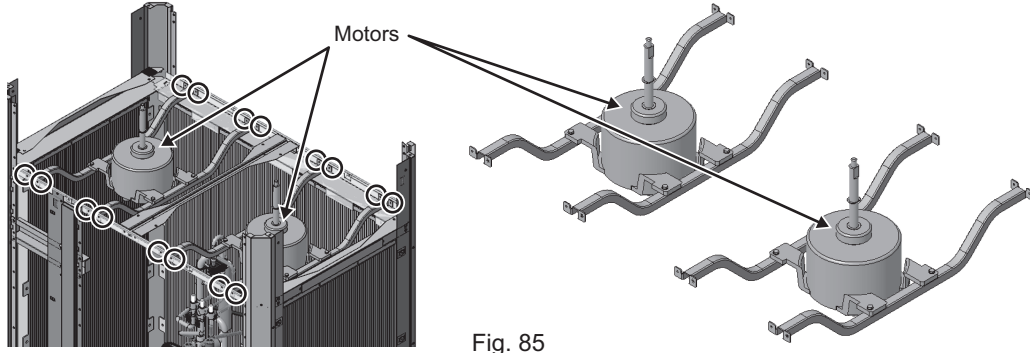

Fig. 85
(9) Remove the motors. (16 screws: Fig. 85)